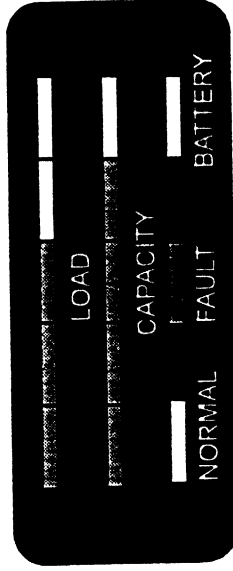

Figure 10. LED indicators during "Bypass Mode"
If the UPS transfers to the "Bypass Mode", then the UPS has either been subjected to an over-temperature or an internal over-voltage. The load is supplied from the main input power via the Surge Suppression filter circuits and is therefore not protected against power failure. The audible alarm will also sound continuously, until the "BATTERY TEST/ALARM OFF" switch (7) is pressed for half a second. When the UPS transfers to the bypass mode the indications shown in figure 10 will be given, in addition one or more of the fault diagnostic segments of the bar indicator will illuminate.